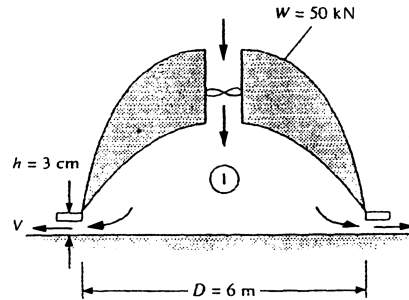

Fig. P3.160
**3.160** The air-cushion vehicle in Fig. P3.160 brings in sea-level standard air through a fan and discharges it at high velocity through an annular skirt of 3-cm clearance. If the vehicle weighs 50 kN, estimate (a) the required airflow rate and (b) the fan power in kW.